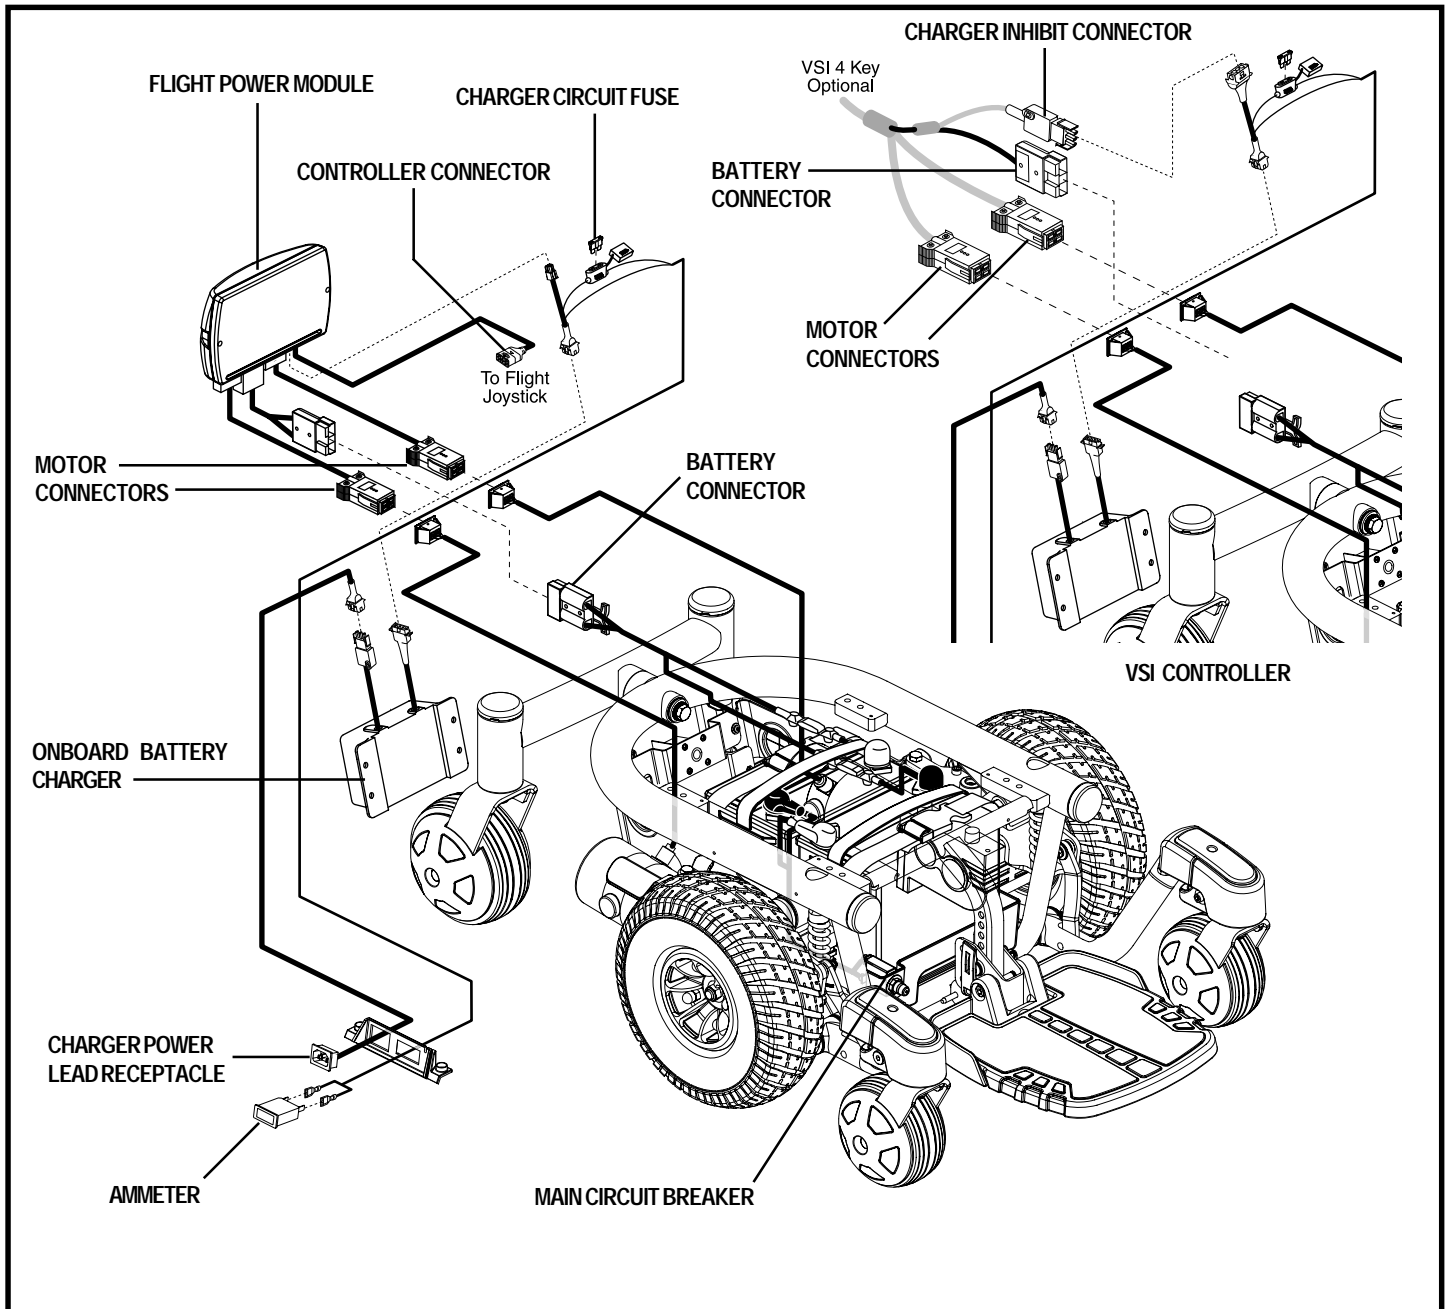

Figure 7. Jazzy 610 Electrical Components
The electrical components are located inside the power base. The ammeter and the charger power lead receptacle are located on the right side of the power base. The main circuit breaker is located on the front of the battery tray. The controller connector(s) are located inside the power base. See figure 7.
7. Plug the controller connector(s) into the power base. See figure 7.
3. Disconnect the controller connector(s) from the power base. See figure 7.